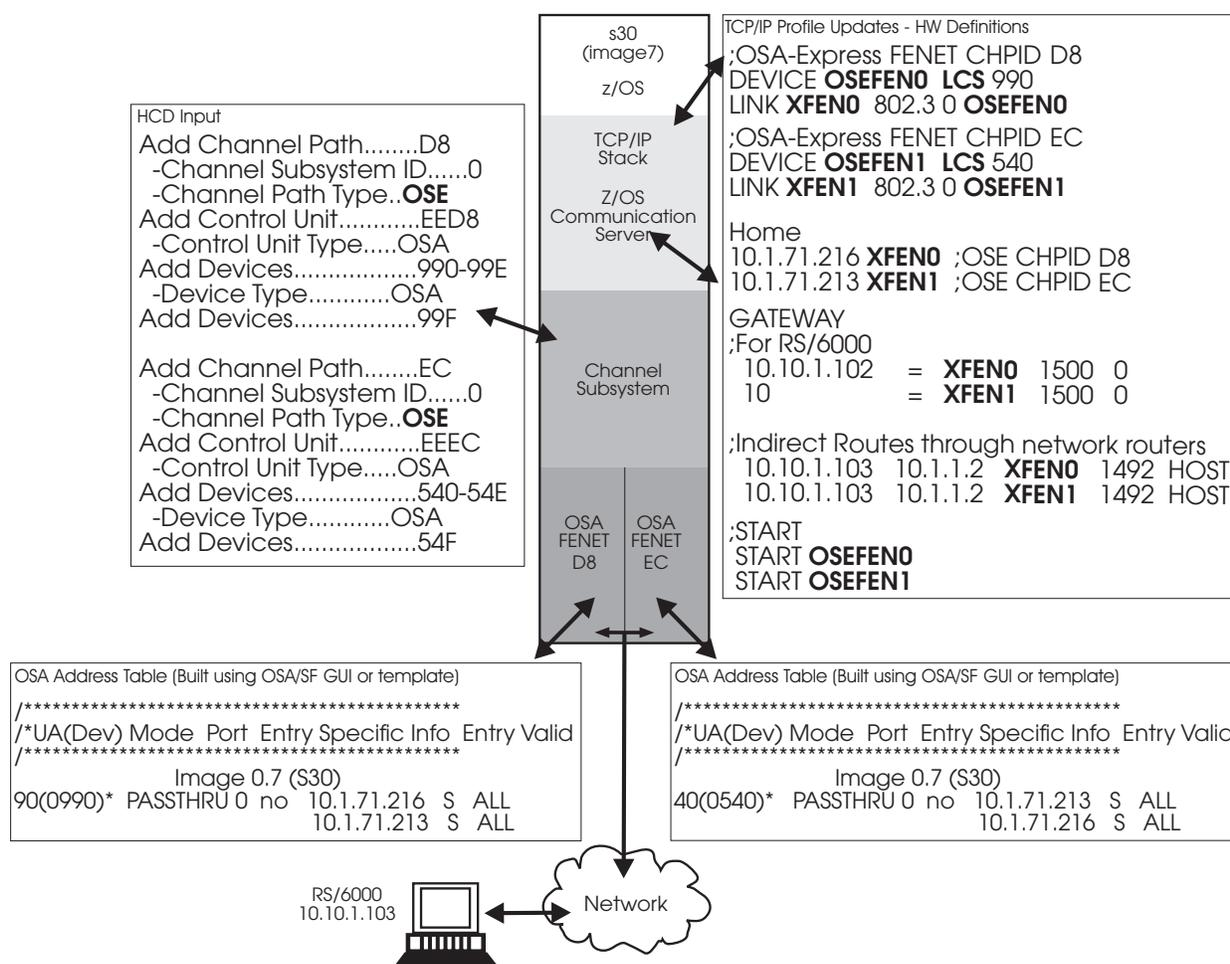

Figure 59. Multiple IP Passthru Entries
We configured the environment as shown in Figure 59.
1. We started TCP/IP on S30, using the profile in Figure 59 on page 251.